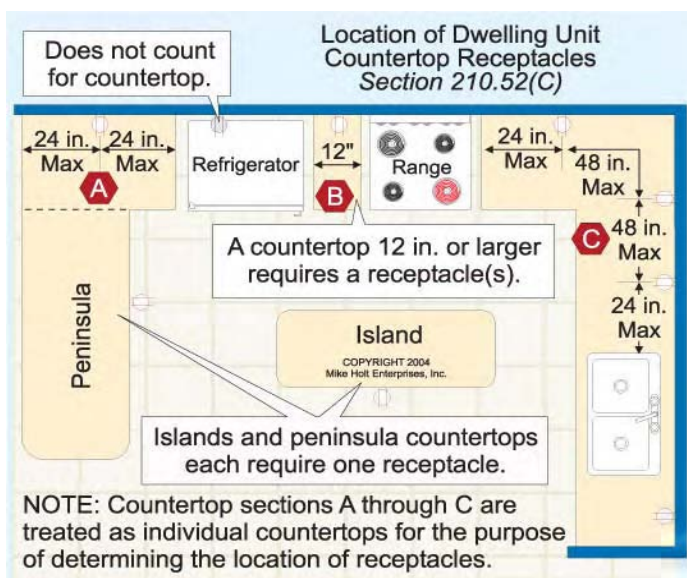

Figure 210-53
(1) Wall Counter Space. A receptacle outlet must be installed for each kitchen and dining area countertop wall space that is 1 ft or wider, and receptacles must be placed so no point along the countertop wall space is more than 2 ft, measured horizontally from a receptacle outlet. **Figure 210-53**